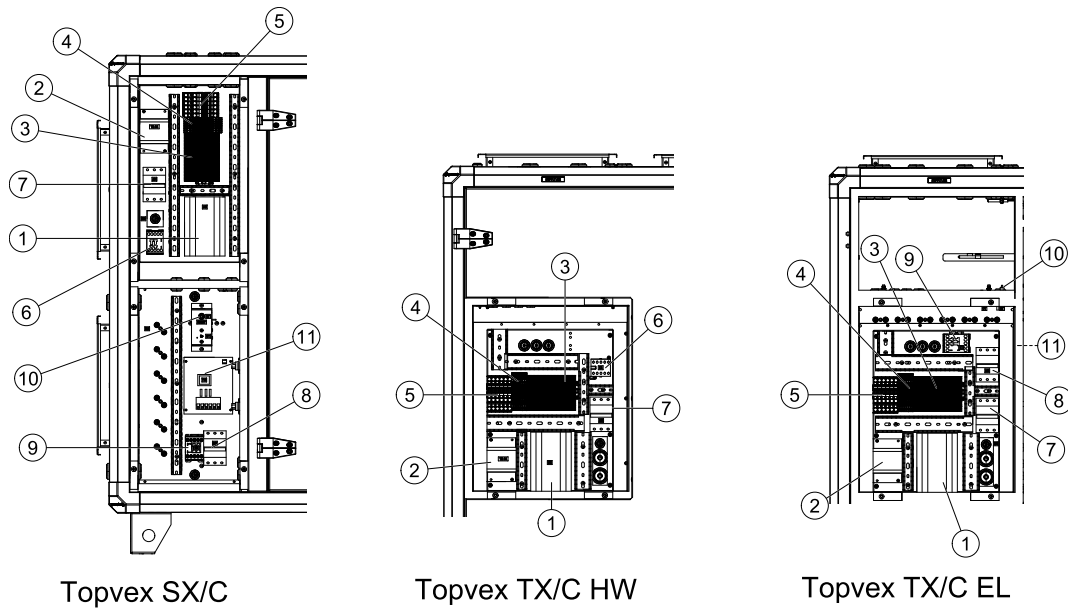

Fig. 2
In units with built in electrical heater the heating rods are located after the supply air fan in the airflow direction. The material is stainless steel. The electrical heating battery has both automatic and manual overheating protection. The manual overheat protection is reset by pushing the red button on top of the electrical heater frame (pos. 10 figure 2). The power demand of the electric heating coil is controlled by the main regulator, which controls the heat steplessly by a TTC triac control according to the selected control function that is set in the control panel.